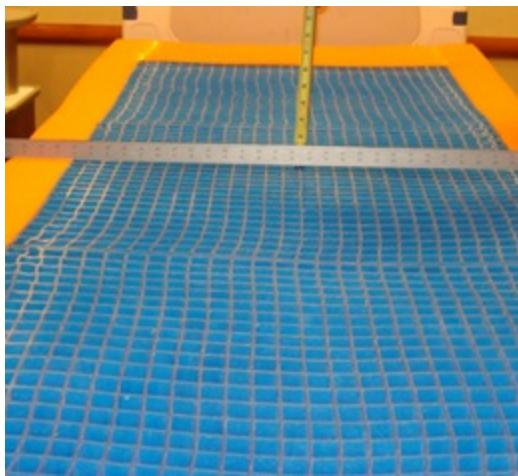

Figure 1-3: Position straight edge
5. Place a straight edge (at least 35 in. (88.9 cm) long) across the gel from left to right at the sacral region (patient seat section) of the support surface (Figure 1-3 on page 1-17).